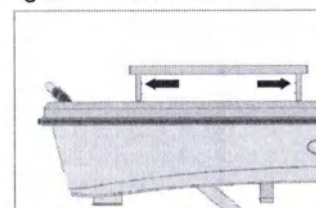

Figure 13. Siderail release button
1. Press the release buttons on the siderail legs and lift the siderail out of its sockets (see Figure 13 and 14).